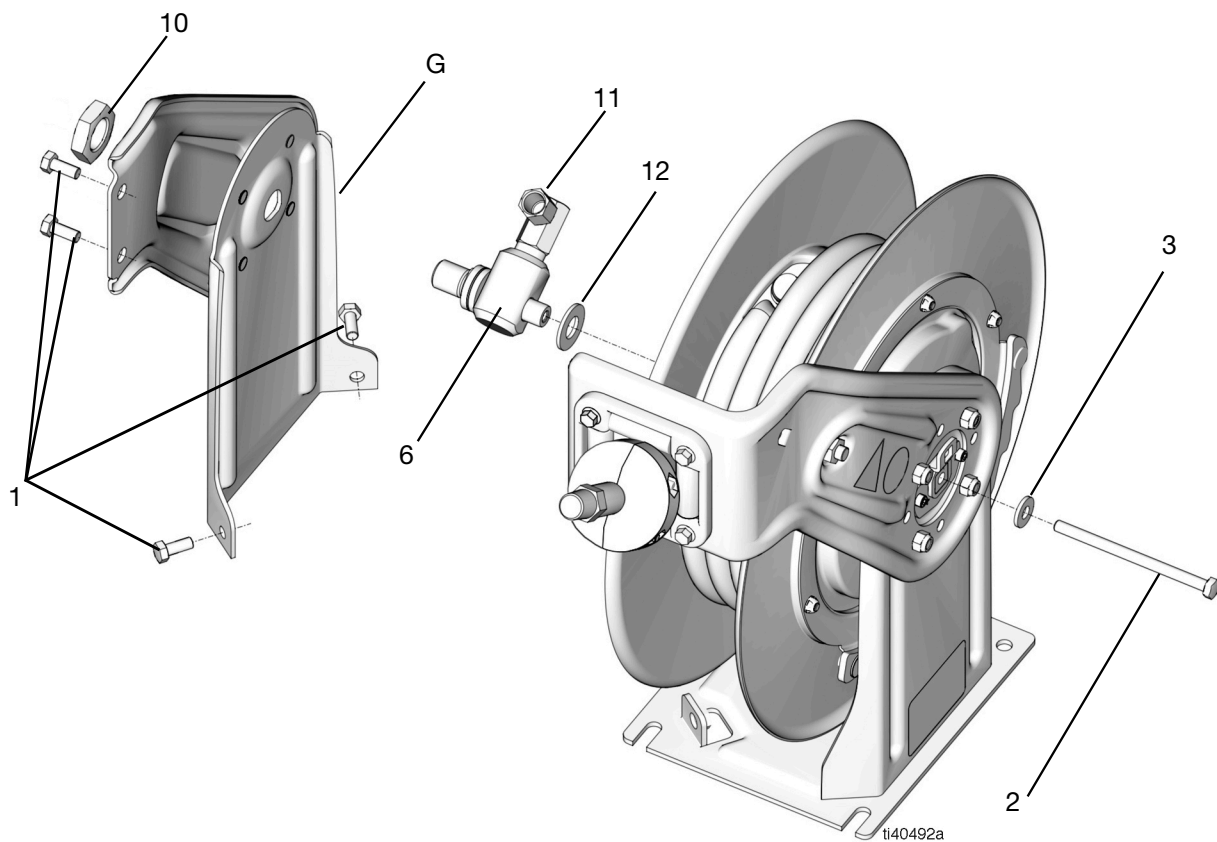

FIG. 3
4. Remove the screw (2) and washer (3) (FIG. 3).
5. Remove the screws (1) and nut (10) (FIG. 3).
6. Disconnect the reel hose (not shown) from the swivel elbow (11) (FIG. 3).
8. Remove the swivel-side pedestal (G).
9. Remove the swivel assembly (6) (FIG. 3).